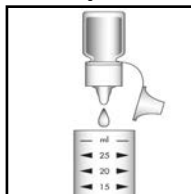

Figure 2
2. Add 2 drops of A-8500 Activator Solution (fig. 2). Cap the sample cup and shake it to mix the contents.